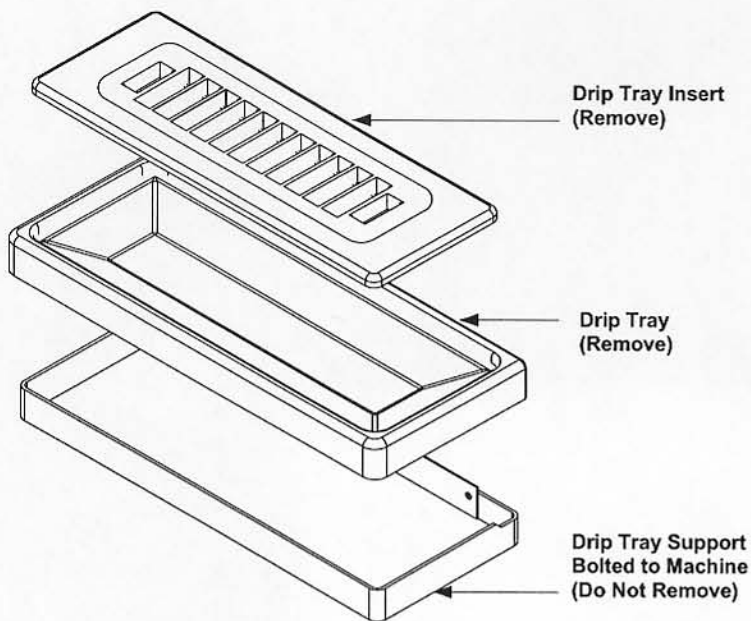

Fig. 39
4. Install the drip tray and drip tray insert (Fig. 39).